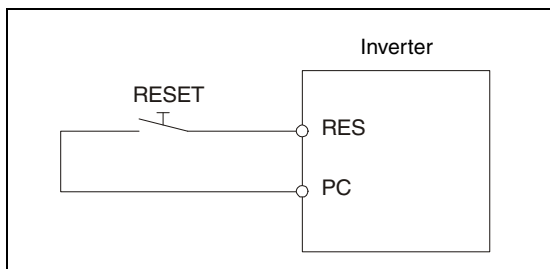

Fig. 7-3:
- Turn on the reset signal RES for more than 0.1s. (Connect the terminals RES and SD when using sink logic or terminals RES and PC as shown Fig. 7-3 when using source logic). (If the RES signal is kept on, "Err." appears (flickers) to indicate that the inverter is in are set status.)